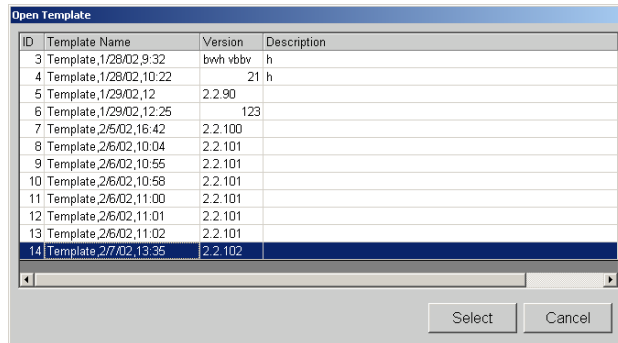

Figure 5-40 Open Template Dialog Box
2. On the **Home** tab, click **New Batch**. The **Open Template** dialog box opens. See Figure 5-40.